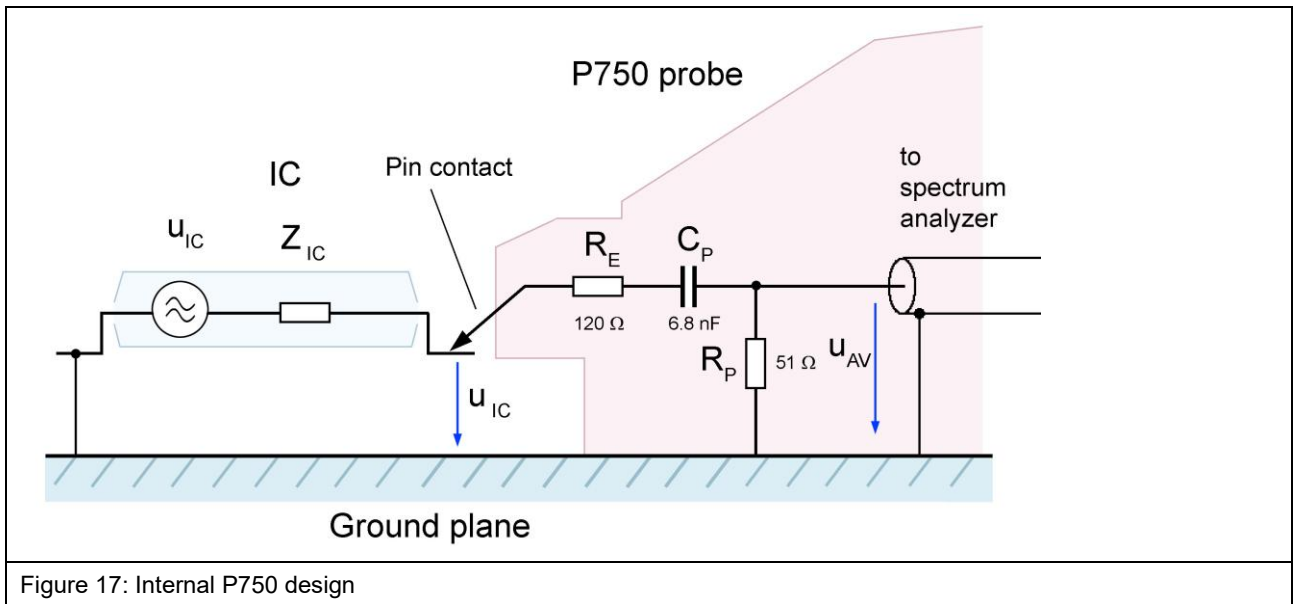

Figure 17: Internal P750 design
**Figure 17** shows the equivalent circuit diagram of the **P750** probe. The matching network comprises a 120 Ohm – 51 Ohm voltage divider and a 6.8 nF coupling capacitor. The pin contact of the probe has to be brought into contact with the respective test IC pin to perform the measurement. Please refer to the “ICE1 user manual” and “Guideline IC EFT immunity”1.